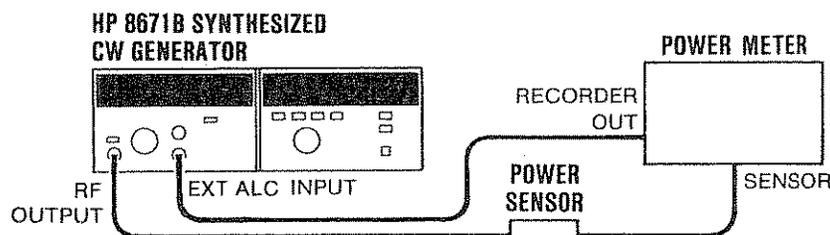

Figure 5-14. External Leveling Adjustment Test Setup
3. Connect the power meter and sensor to the CW Generator as shown in Figure 5-14.